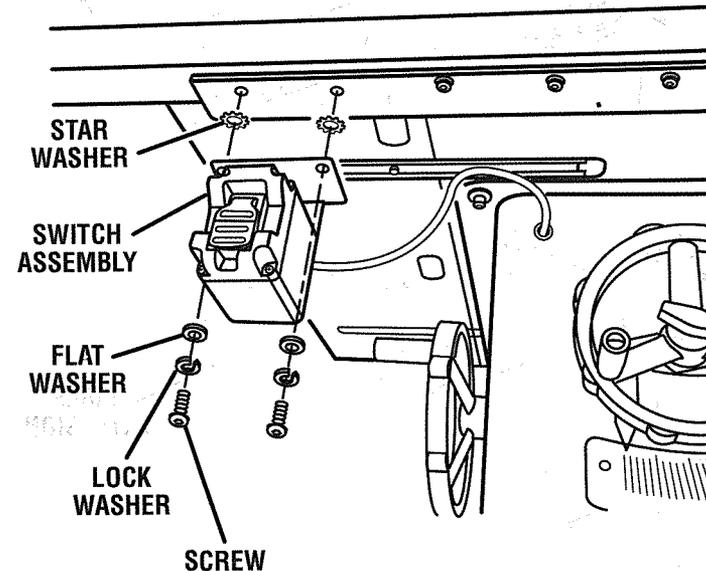

Fig. 32
See Figure 32.
- Place a star washer on the screw between the switch assembly and front rail support as shown in figure 32. Tighten securely.